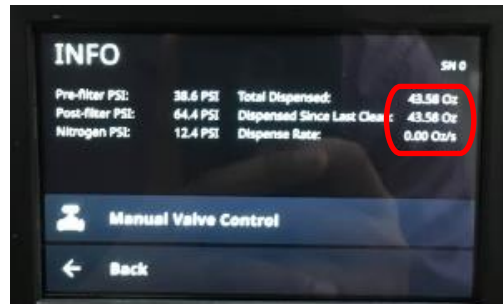

Figure 8b: Machine Info Screen with Total Dispensed and Dispense Rate circled.
- b. Open product tap and verify that the TOTAL DISPENSED and DISPENSE RATE readings are changing. See Figure 8b.